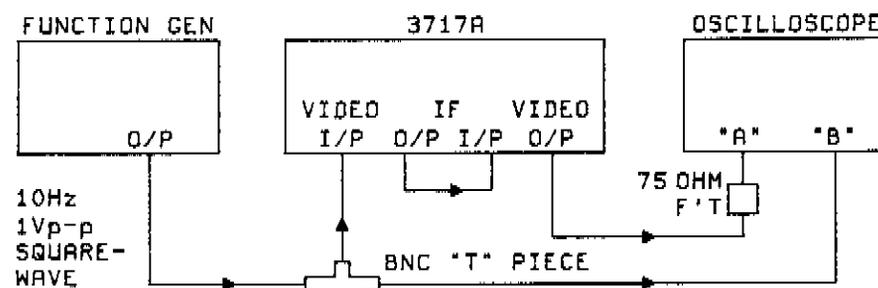

Figure 4-11 50Hz Square Wave Tilt Test
1. Connect the test equipment as shown in Figure 4-11, with the oscilloscope dc coupled, 0.2V/div on both channels, and 2ms/div.